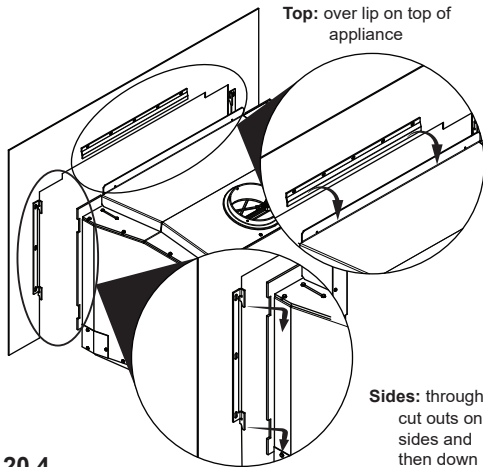

Figure 20.4
4. Lift surround on to front of appliance (Figure 20.4).